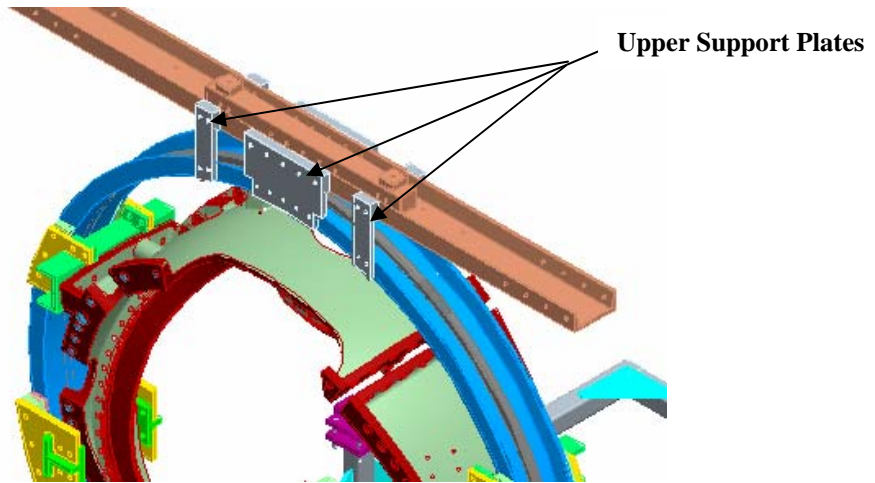

Figure 8- Upper Support Plates
6.6.8 Figure 8- Upper Support Plates